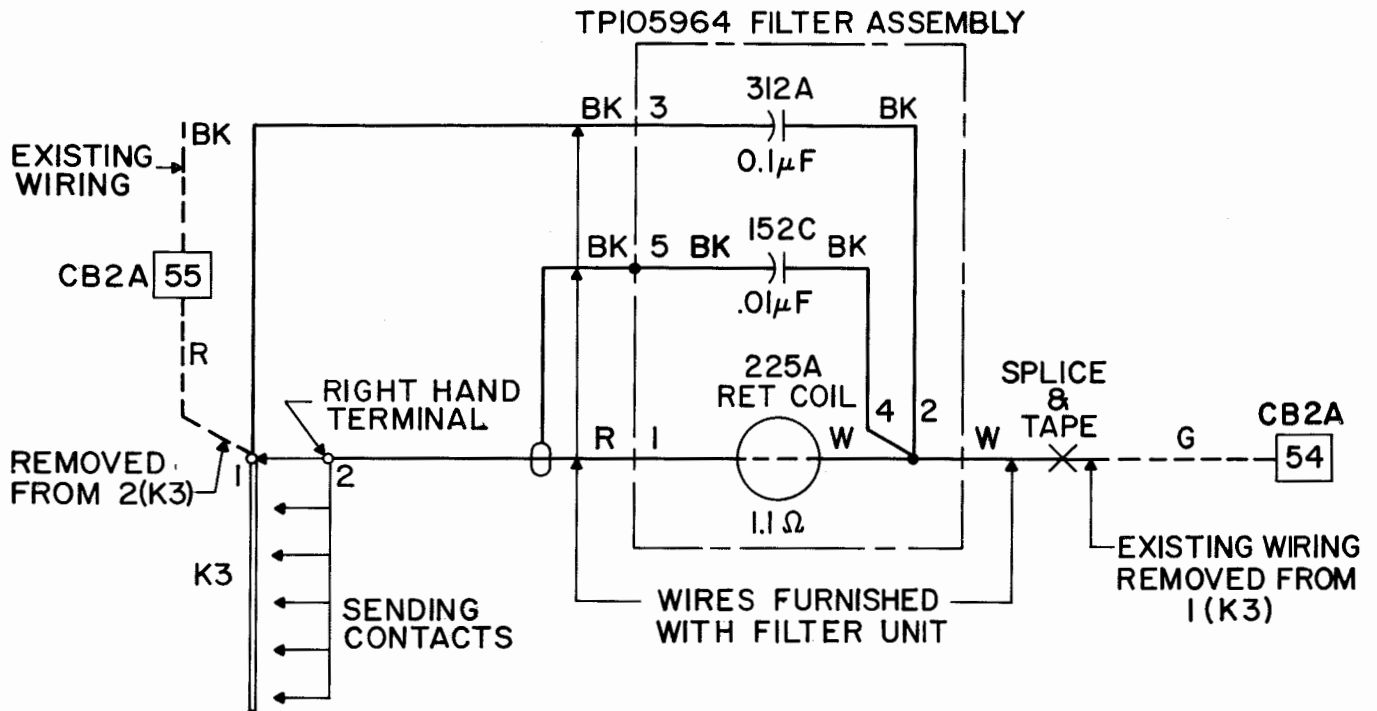

Figure 2 - (Without LINE-TEST Key) 15D, 15E, 15F and 15G Keyboards
2.06 For 15D, 15E, 15F, and 15G keyboards refer to Figure 2 and connect the TP105964 filter assembly as follows: